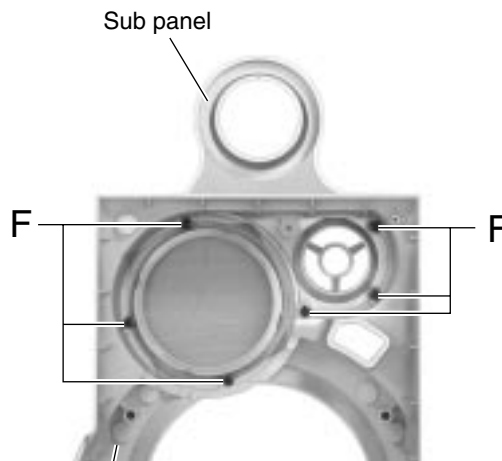

Fig.6
■ **Removing the sub panel (See Fig.6)**